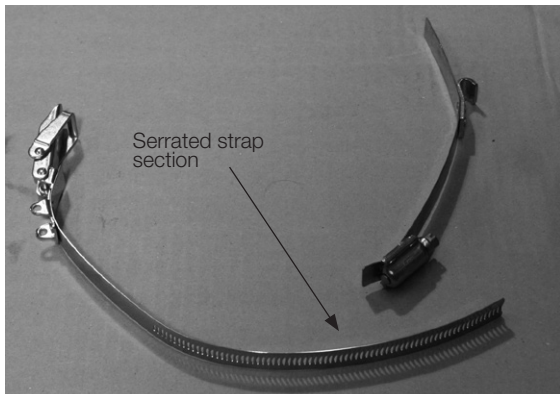

Figure 8. Clamp strap sections
5. Feed the serrated section of the clamp strap through the slots in the base bracket. Begin feeding the strap in the slot by the solid side of the bracket. The strap exits on the side of the bracket with the extra slot. See Figures 8 and 9.